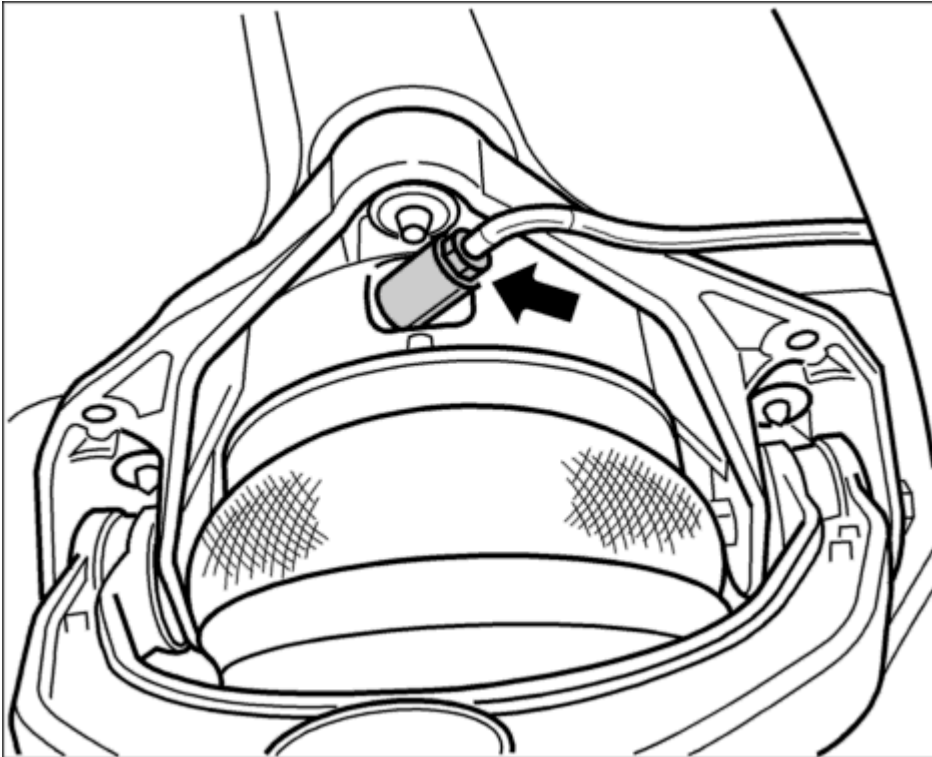

Fig. 103: Pressure line on residual pressure retaining valve
11. Fit pressure line at residual pressure retaining valve -(**arrow**)- using insert part T10212. Note tightening torque. Refer to **40 TW Tightening torques for front axle - as of MY 2003 (All Models)** . See **Fig. 103**.